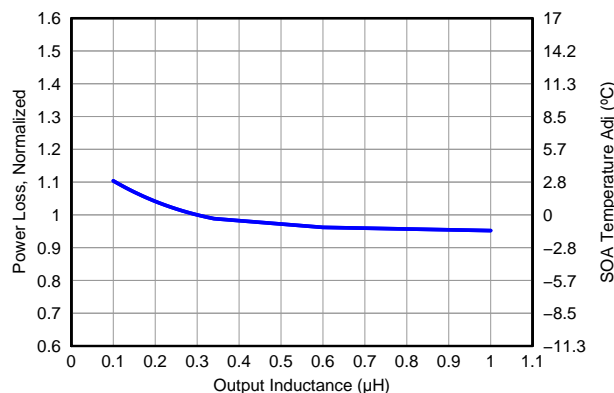

Figure 15. Normalized Power Loss vs Output Inductance
- Normalized Power Loss for output inductor ≈ 1.04 (Figure 15)
- SOA adjustment for output inductor $\approx 1.3^{\circ}C$ (Figure 15)